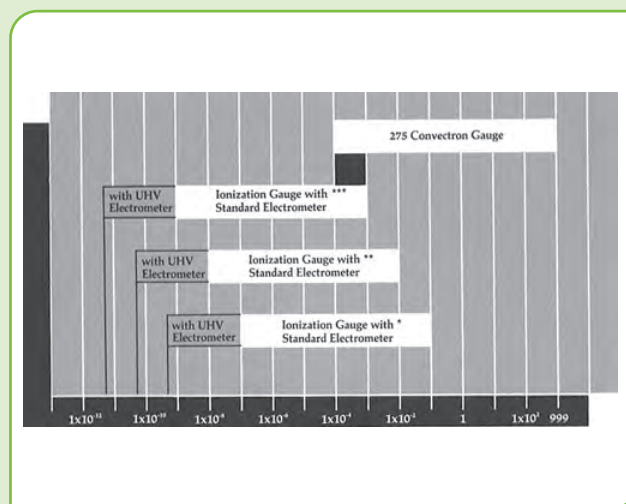

Figure 2 - Operating Range
- For extended pressure range measurement capability and/or prolonged tube life, emission current can be adjusted. (See Figure 2)